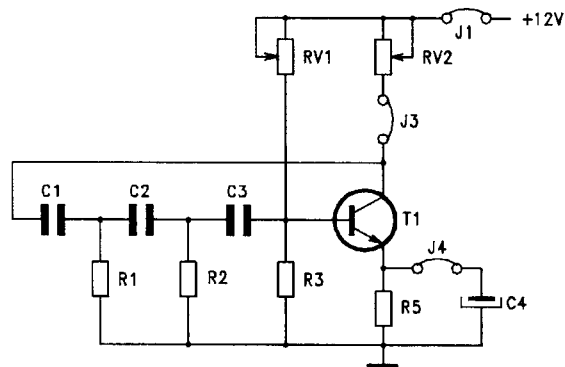

fig. B33.5
- Remove jumpers J2, J5, insert J3, J4 to produce the circuit of figure B33.5.